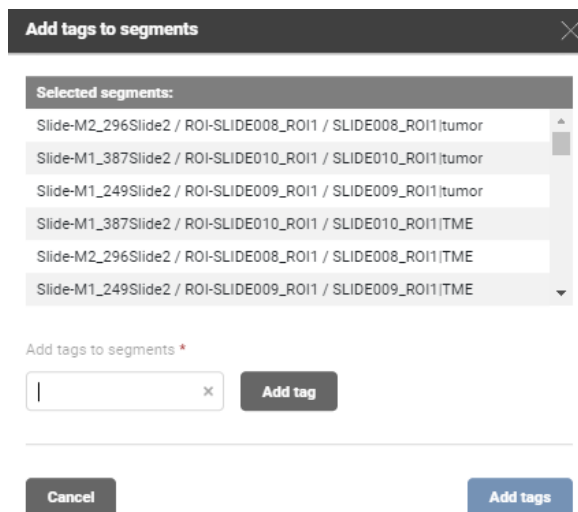

Figure 55: Segments selected for tag
4. In the **Add tags to segments** window (see Figure 55), review the list of **Selected segments**, then type the name of the first tag you would like to add to these segments and select the gray **Add tag** button.